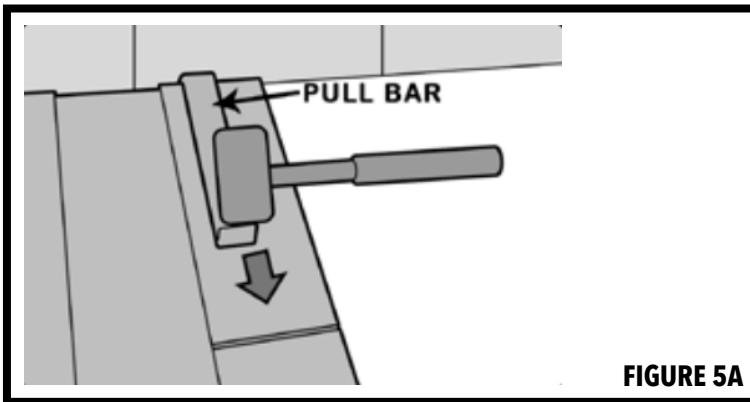

FIGURE 5A
11. Aqualogic® LVT Planks are unique in that in difficult areas they can be installed with a pull bar or tapping block and rubber mallet. Use of a pull bar and rubber mallet to lock the joints together in the last row may be necessary. Always use a pull bar on the cut edge of the plank. Factory edges can be damaged if the pull bar is used directly against them (Refer to Figure 5A and 5B).
(Refer to Figure 5A and 5B)